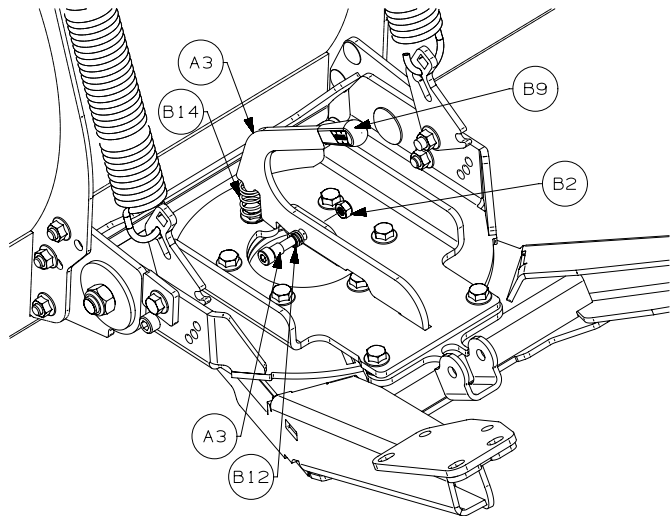

Figure 5
9. Rotate the base of the tube assembly to center position aligning the rear slots of the push tube assembly. Install spring (B14) over forward center bolt head of push tube assembly. Install handle over spring and into slot in push tube assembly. Align latch handle pivot hole and secure with fasteners (B2, B12, B15). See figure 5. Tighten fasteners to torque specification listed.